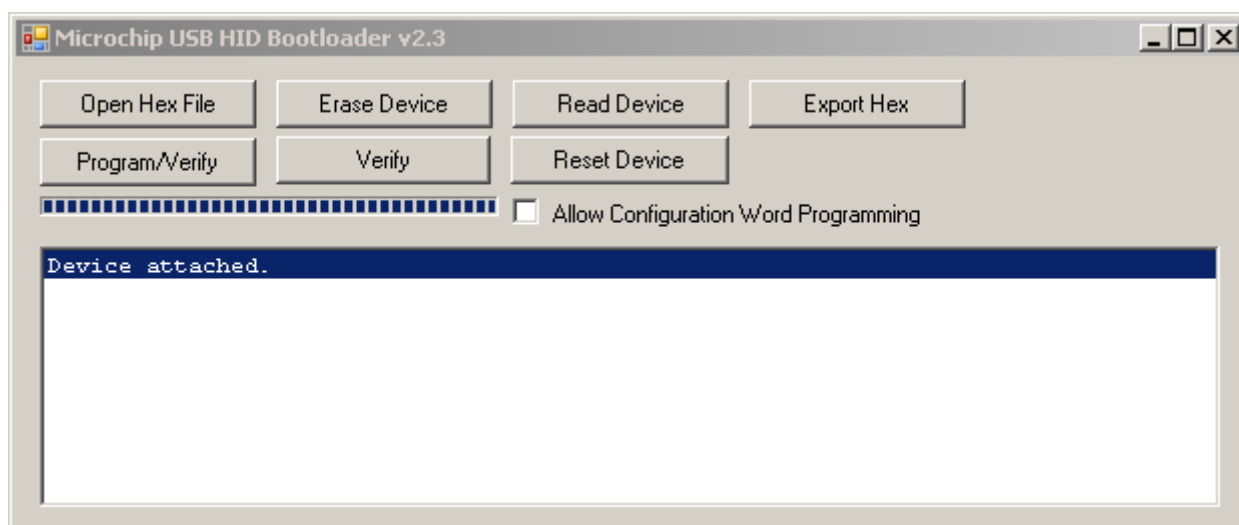

Figure 2. Microchip S/W interface
- iv) Run the software Microchip USB HID Bootloader. If the SX8651EVK is detected, the information “Device attached.” is displayed as shown in Figure 2.